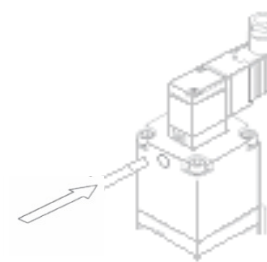

Figure 1
- VNA1-4:** See Figure 1. Push on the manual override button using a small-bladed screwdriver until it stops ON. Hold this position for the duration of the check (ON position). Release the button and the override will re-set to OFF position.